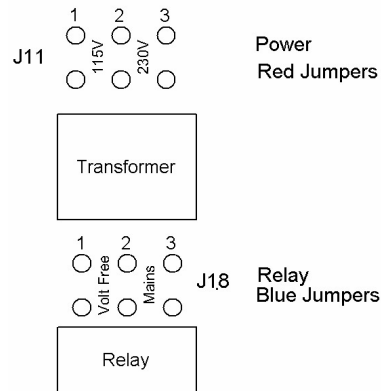

Fig 1: Schematic showing relay positions on the bottom board.
- c. Locate the red jumpers (J11) on the top left hand corner of the bottom board. (see fig 1)